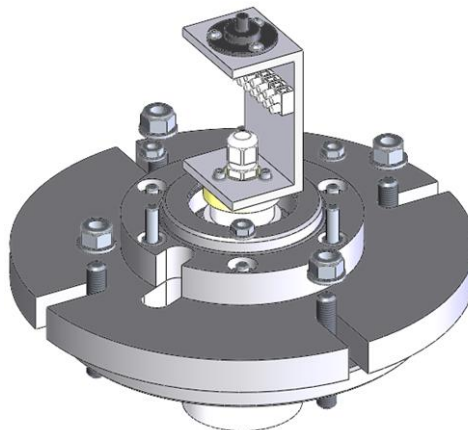

Figure 30: Slip Ring Sub Assembly installed
- Mount the Slip Ring Sub-assembly on to the Brass Thread Adapter and tighten. Secure the Fixing Plate to the mixer and the Bearing Housing to the Fixing Plate using the supplied nuts (Figure 30).